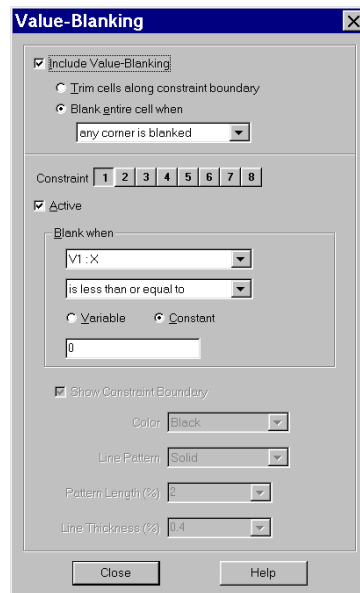

Figure 27-1. The Value-Blanking dialog when frame mode is 2D or 3D.
1. From the Style menu, choose Value-Blanking. The Value-Blanking dialog appears as in Figure 27-1.